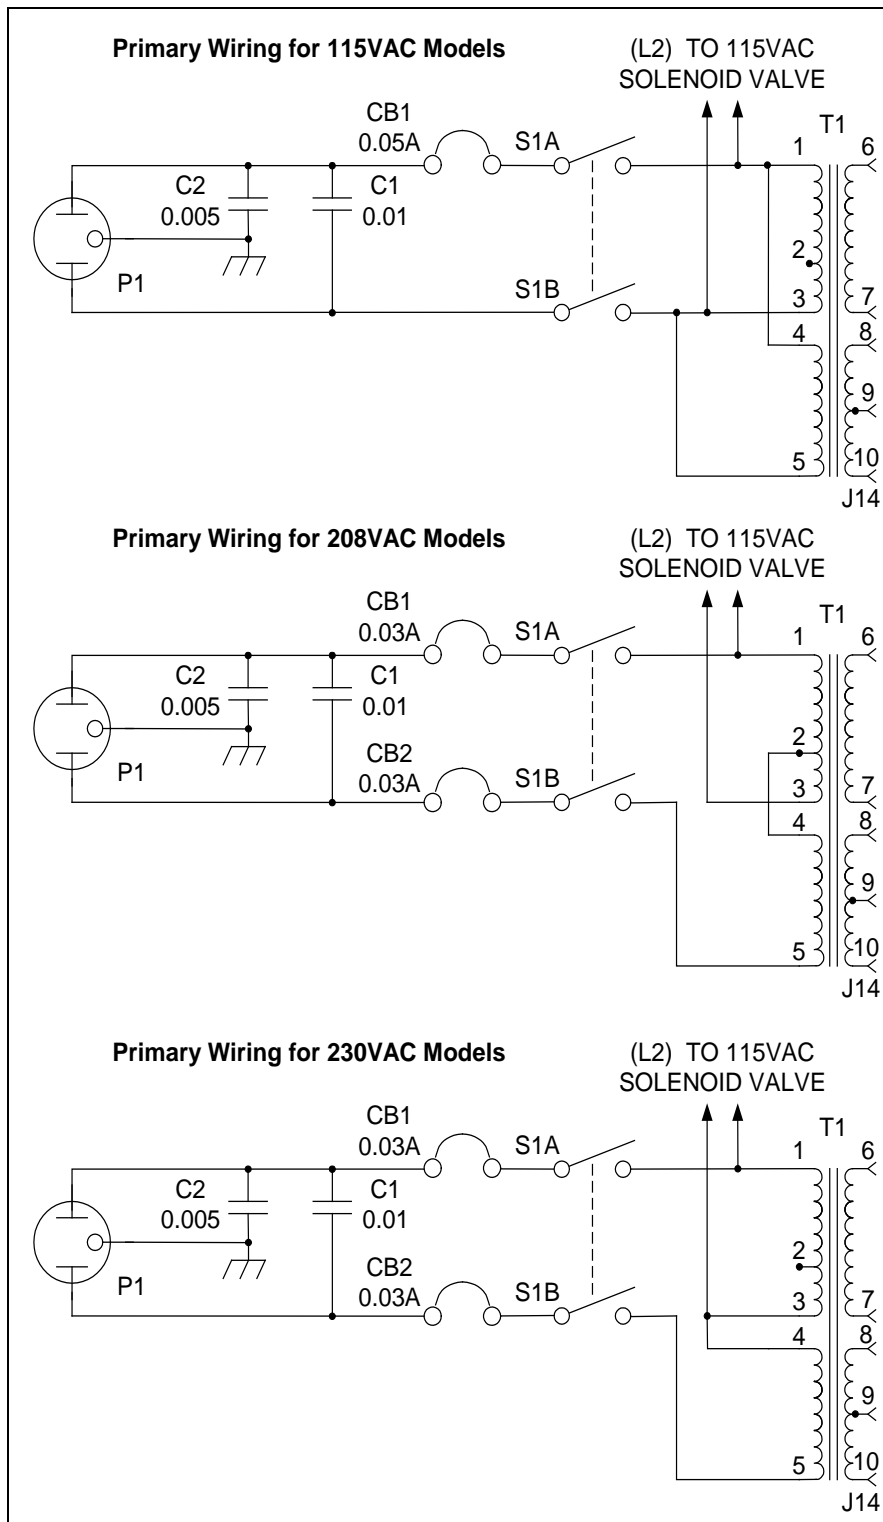

Figure 2-1. Power Supply Connections
- Loosen the four screws which secure the cover and lift the cover straight up to remove it. The different transformer connections and circuit breakers for each specific line voltage are illustrated in figure 2-1.